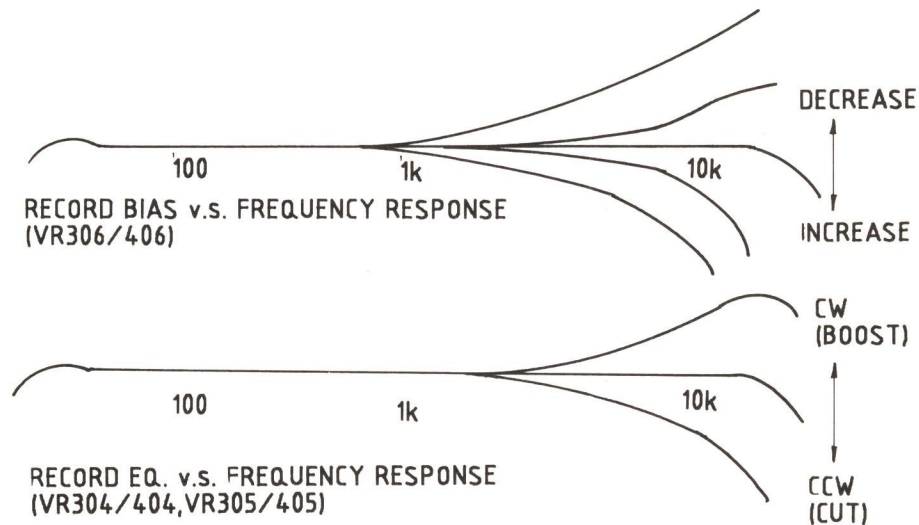
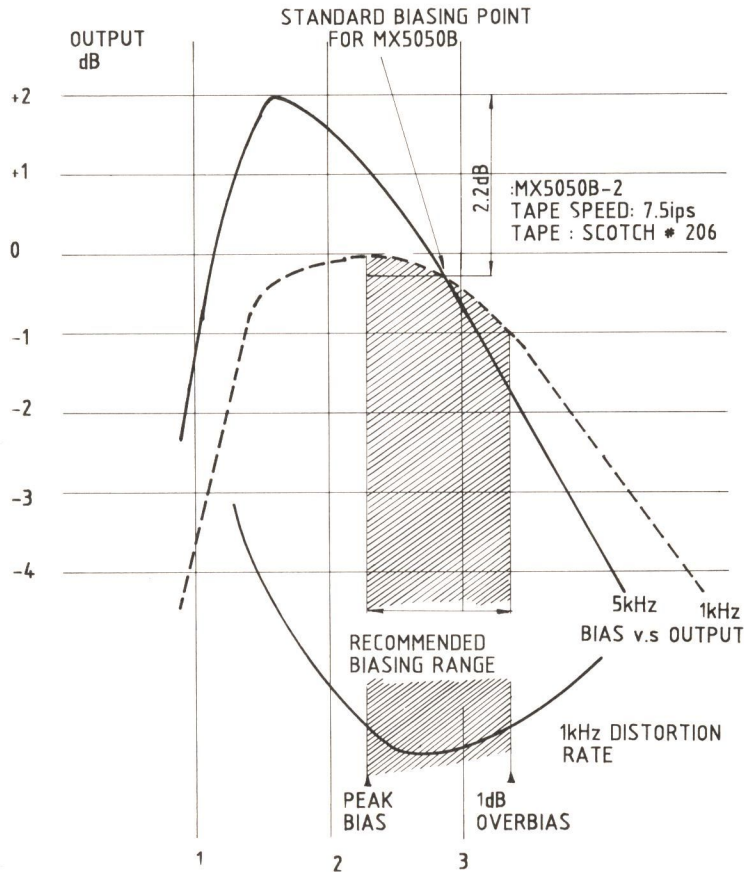

Fig. 5-9
Fig. 5-10
Figure 5-9 shows the variation of the frequency response by the bias set and the Record EQ adjustment control, and Fig. 5-10 shows the characteristics of the output and distortion vs. bias current.
- (1) Feed 1 kHz, 0 dBm signal to input of the recorder. Monitor the input and adjust input level control knob to read 0VU on the VU meter. Then set the MONITOR switch to the TAPE position. Select SRL position of the SRL switch.
- (2) Put the machine in RECORD mode at 15 ips.
- (3) Turn down (counterclockwise) the bias control potentiometer once and gradually turn it up clockwise. The VU meter reading will increase. Find out the peak point of the output level as explained with Fig. 5-10.
- (4) Feed 10 kHz signal and adjust screw A3 to have same phase relation as explained previously at reproduce head adjustment.
- (5) When head adjustment has been completed, adjust VR303 (L ch in 15 ips) to have 0 VU reading on the VU meter.
- (6) Change input signal frequency from 30 Hz to 20 kHz and check if frequency response is within specification. Adjust Record EQ pot and bias if necessary.
- (7) Do the same steps for the record frequency response at lower tape speed. In this case input signal level should turn down by 10 dB, so recording should be held at -10 VU output.